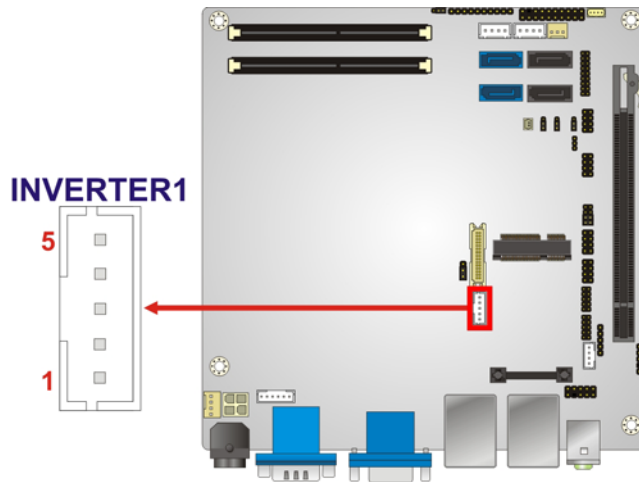

Figure 3-4: Panel Backlight Connector Pinout Location
- CN Location:** See **Figure 3-4**